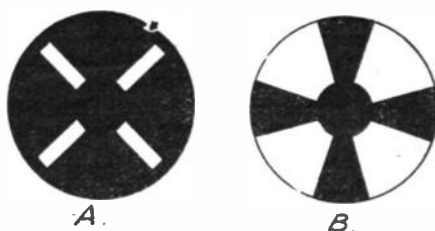

Fig. 7.—The image appearing on the screen of the Mullard electron beam tuning indicator, under conditions of (A) no signal, and (B) maximum signal.
As the rectified output increases due to a signal being tuned in, the grid of the tube becomes more negatively biased, and this grid voltage is amplified by the triode portion of the indicator and applied electronically to the ray control electrode, thus increasing the intensity of the electron stream from the cathode to the target. This target is the phosphorescent end of the tube, and the construction is such that the luminous image appearing on it under conditions of no signal is as shown in Fig. 7 (A). As the signal is received, the arms of the cross gradually widen and assume the position shown in Fig. 7 (B), when the station is tuned in accurately. Full details of this system were given in our issue of September 19th last, and it has the advantage that it is extremely sensitive.